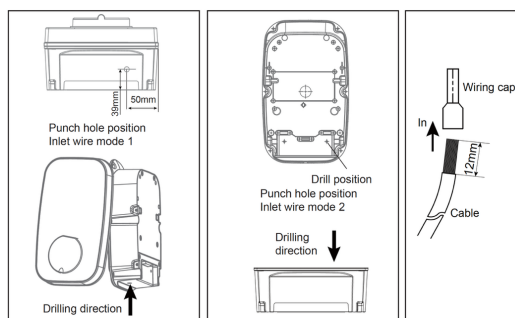

Fig. 13
- Respect size and position indicated in the figure (reference fig. 13).
- Option 1 (bottom entry): the housing hole diameter is $\varnothing 24$ mm for the single-phase model (EU01_116898 - PIT&STOP SMART 7.4 kW) or $\varnothing 28$ mm for the three-phase model (EU01_116897 - PIT&STOP SMART 11 kW). Figure 13 shows reference dimensions 39 mm and 50 mm with respect to the edges.
- Preparation of the cable end: remove approximately 12 mm of insulation and place the "wiring plug" (Figure 13) or the intended termination before connecting to the terminal block.
- a5. Connect the cable to the terminal block following the "Electrical wiring connection" section (reference fig. 13). Keep the correspondence of conductors L/N/PE (single phase) or L1/L2/L3/N/PE (three phase).
Note: the connection reference is shown in figure 13.
- b3. Connect the cables to the terminal block following the "Electrical wiring connection" section (reference fig. 13).